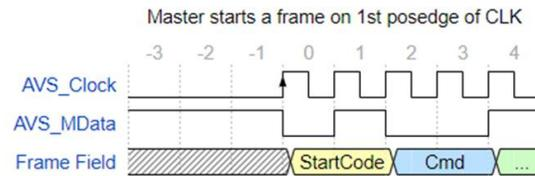

Figure 1
**Question 1:** Can the Master transmit a <StartCode> right away when the Clock starts (shown in figure 1 below)?
So, Figure 1 is correct and the first bit transmitted after a Clock starts may be a "0" or "1".